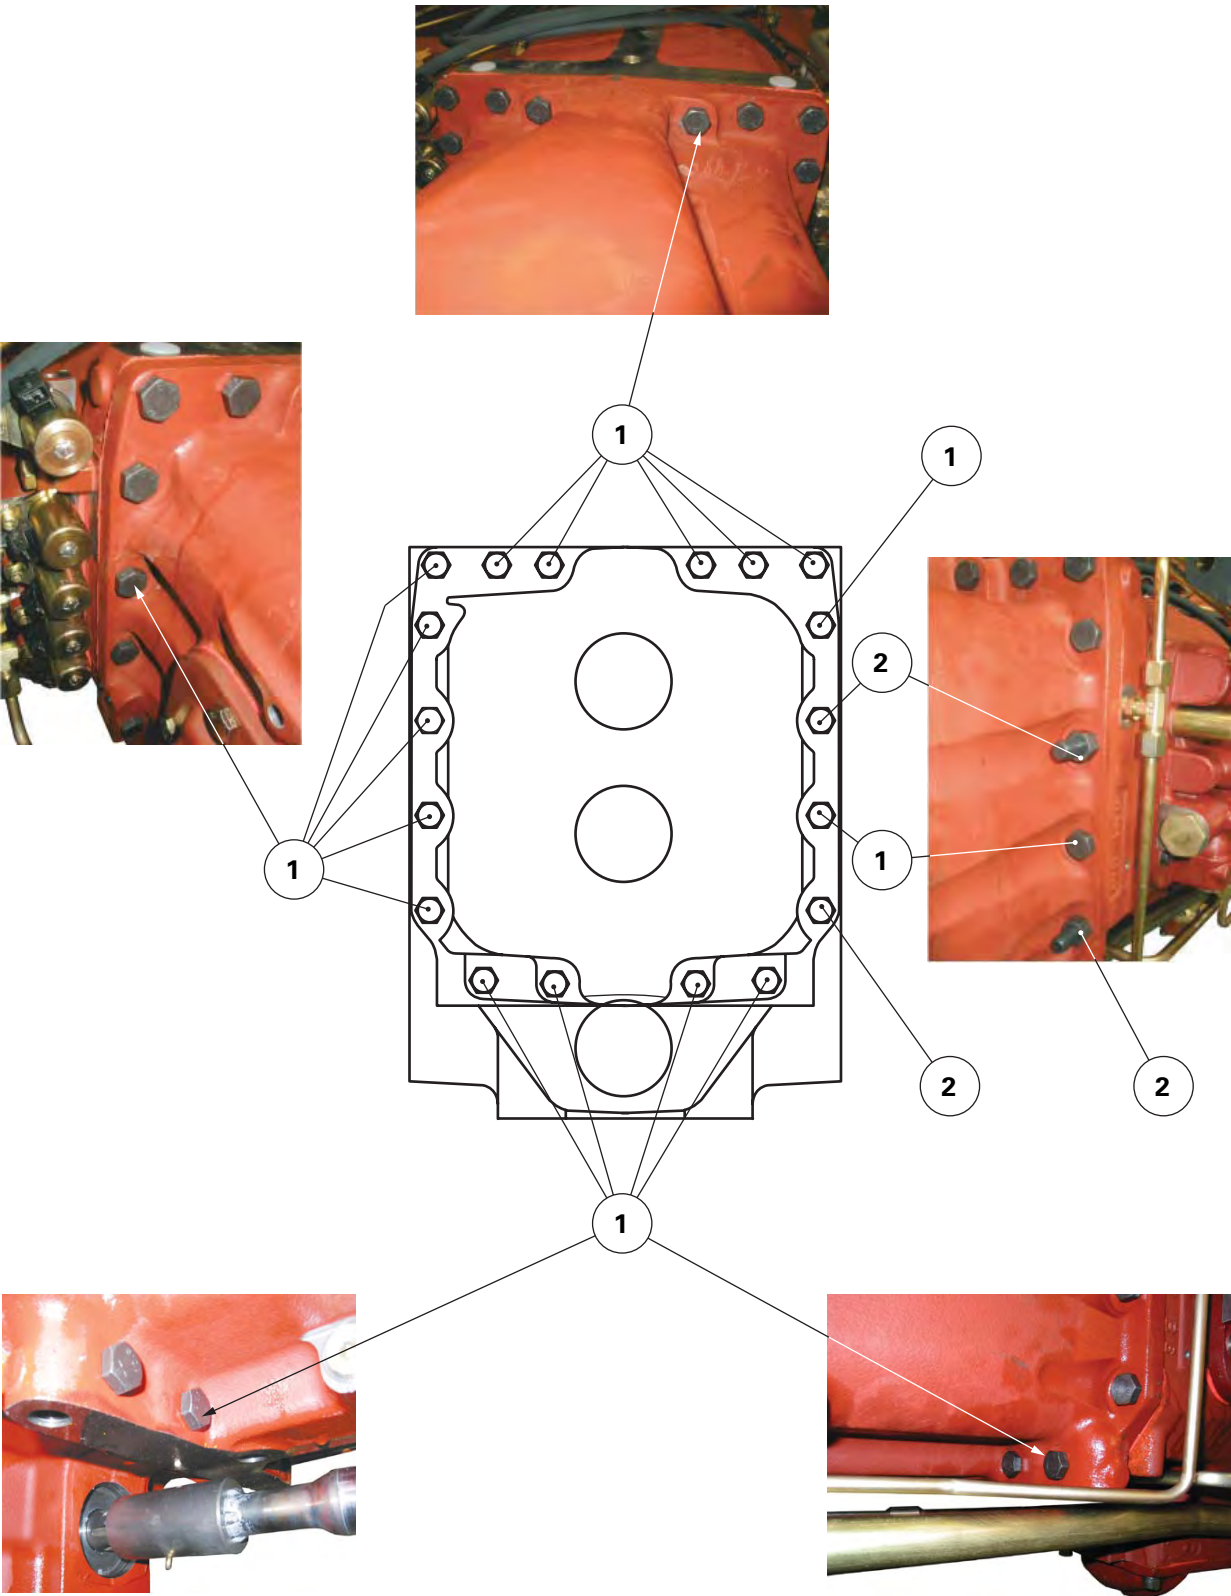

Fig. 7
23. Remove the screws (1) and nuts (2) fixing the gearbox to the centre housing (Fig. 7). Mark their length and position.
38. Fit the screws (1) and nuts (2) (Fig. 7) according to the marks made during disassembly.